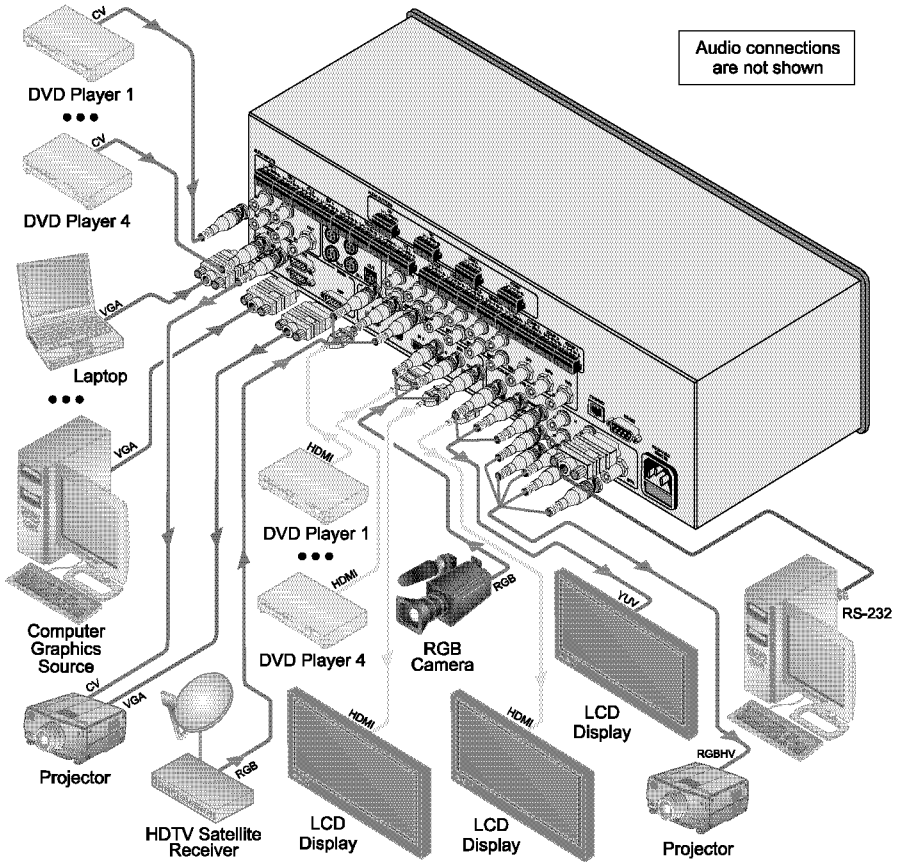

Figure 3: Connecting the VP-725XLA Presentation Switcher / Scaler
To connect the **VP-725XLA**, connect the following1 to the rear panel, as the example in Figure 3 illustrates:
- Up to four s-Video sources to the 4-pin input connectors (not illustrated in Figure 3)
1 Not illustrated in Figure 3